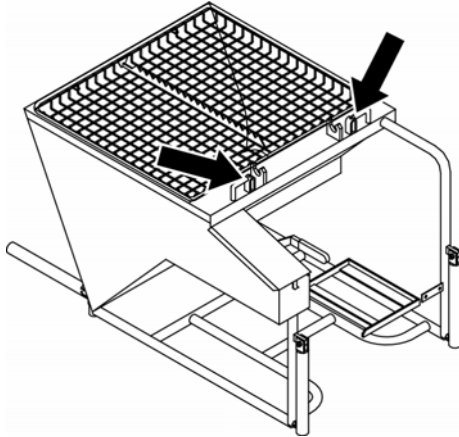

Fig. 15: Attachment points
For crane transport attach the pump on the lifting lugs (Fig. 15/arrows) with a cable.
1. Attach the ropes or straps appropriately using all foreseen lifting lugs (Fig. 15/arrows).